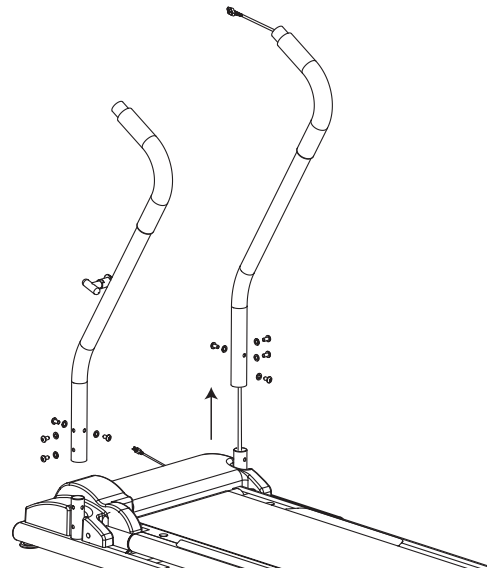

**Figure 1: Deck in down position**
1. With the treadmill deck in the down position, leave the unit on the original packing material to assemble all parts. Refer to Figure 1.